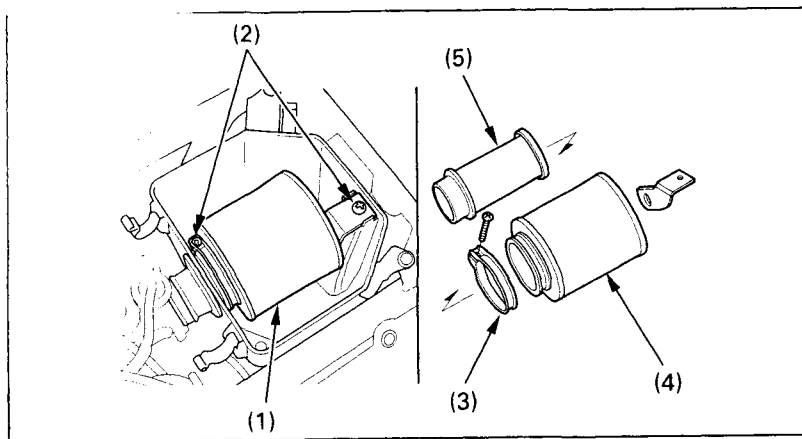

Fig. 4-5 (1) Air cleaner assembly (2) Screws (3) Clamp (4) Air cleaner (5) Air cleaner body
3. Remove the screws (2) (Fig.4-5) and remove the air cleaner assembly (1) from the air cleaner housing.
4. Unscrew the clamp (3).
5. Remove the air cleaner (4) from the air cleaner body (5).